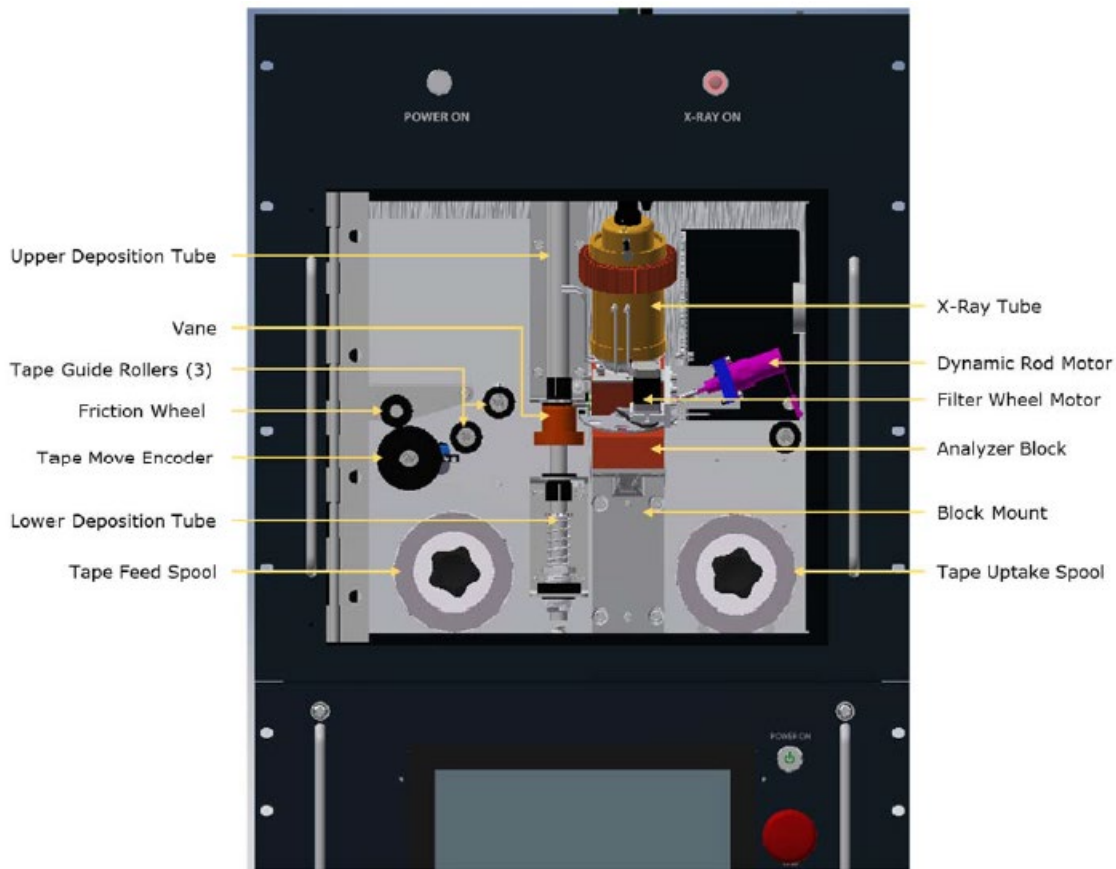

Figure 1. Schematic of the Xact 625i analyzer.
The SCI Xact 625i is a continuous ambient and fenceline multi-metals monitoring instrument that simultaneously measures up to 67 elements with atomic numbers ranging from 13 (i.e., aluminum; Al) to 92 (i.e., uranium; U). A schematic of the Xact instrument is shown in Figure 1. The instrument determines metal concentrations by measuring the volume of the air sampled during the sampling time and then measuring the mass of metals in the sample deposit. Metal concentrations are determined using nondestructive X-ray Fluorescence (XRF) from the particulate matter (PM) deposited on Teflon™ tape after the sampling is complete. The PM spot is then irradiated with X-rays from an X-ray tube. Upon irradiation, the various elements present in the PM will emit fluorescent light in the X-ray regime of the electromagnetic spectrum. The fluorescent X-ray light is then analyzed by a detector to determine the elemental composition based on the known fluorescent signatures of the target elements. Depending on the goals of the monitoring, the collection times can range from 5 minutes to longer (typically up to an hour). Concentrations are typically reported in nanograms per cubic meter (ng/m³).